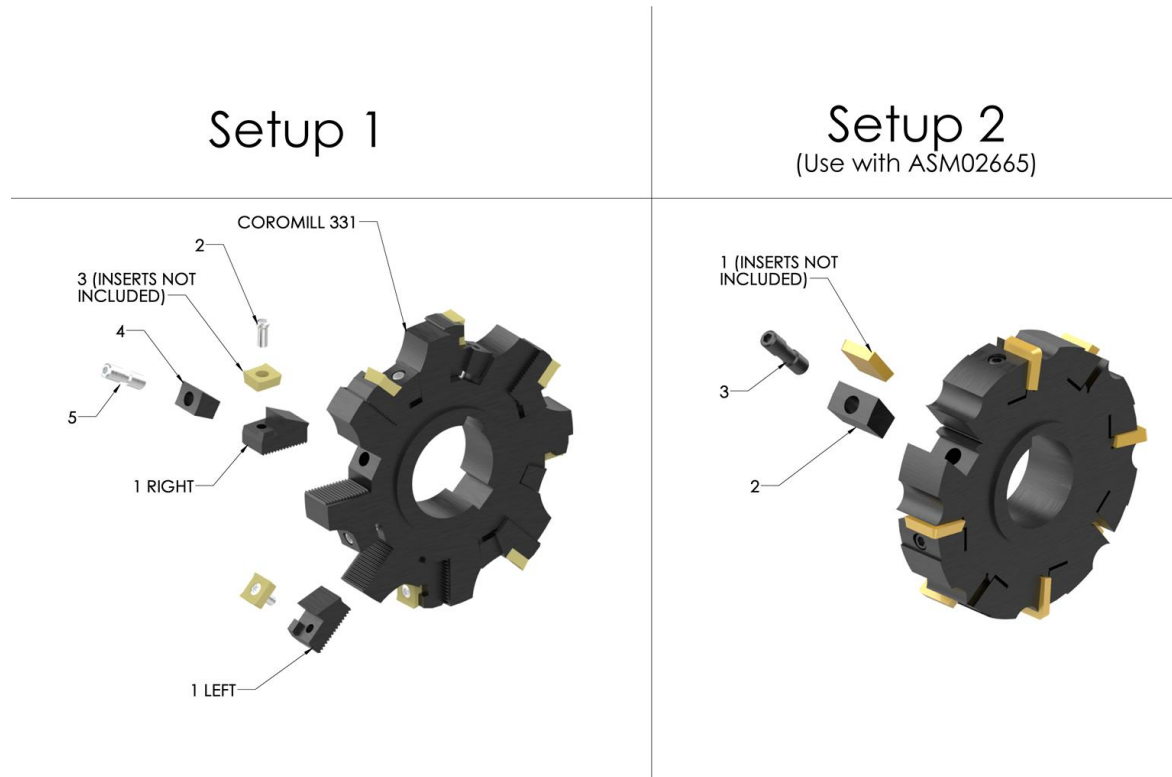

FIGURE 5: SLOT CUTTER ASSEMBLY
2.	Remove the Insert Screw (2) shown in Figure 5 and install or index the dull Cutter Insert.
3.	Insure that the Slot Cutter is Cassette Pocket (1) is clean.
4.	Hand position the Cutter Insert (3) between in the Cassette.
5.	Securely tighten the Insert Screw (2) with a torque of 26 lb.- in. (3 N·m). The Insert Screw is a type Torx Plus 15IP . The recommended Sandvik torque wrench is listed below.
6.	Continue this process until all (8) eight Cutter Inserts are replaced or correctly indexed.
2.	Remove the Wedge Screw (3) shown in Figure 5 and install or index the dull Cutter Insert.
3.	Hand position the Cutter Insert (3) with the wedge
4.	Securely tighten the Wedge Screw (3). The Wedge Screw is a standard hex. The recommended Michigan Drill torque wrench is listed below.
5.	Continue this process until all (8) eight Cutter Inserts are replaced or correctly indexed.